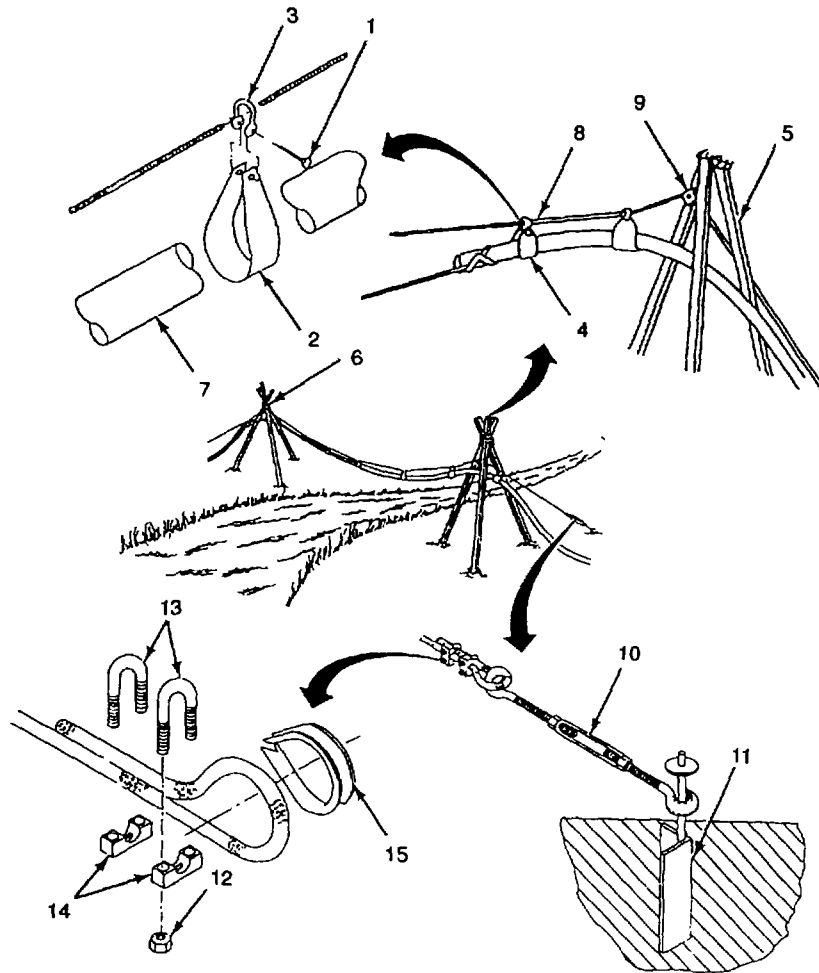

Figure 2-38. Disassembly of Suspension Device
- (5) Remove bolt (1, Figure 2-38), saddle (2), and shackle (3) from each saddle assembly (4) to outside of upline tripod (5).
- (6) Remove shackles (3) from wire rope (8).
- (7) Remove bolt (1), saddle (2), and shackle (3) from each saddle assembly to outside of downline tripod (6).
- (8) Remove shackles (3) from wire rope (8) and install bolts (1) through saddles (2) and shackles (3).
- (9) Pull hose (7) across span. Saddles (2) should drag with hose (7) along wire rope (8).
- (10) As saddles (2) arrive at pulley block (9) on tripod tower (5), remove each one by removing bolt (1), saddle (2), and shackle (3). Install bolt (1), and shackle (3) on each saddle (2).
- (11) After all saddles (2) have been removed and hose has been retrieved, loosen tumbuckles (10) to release tension on wire rope (8).